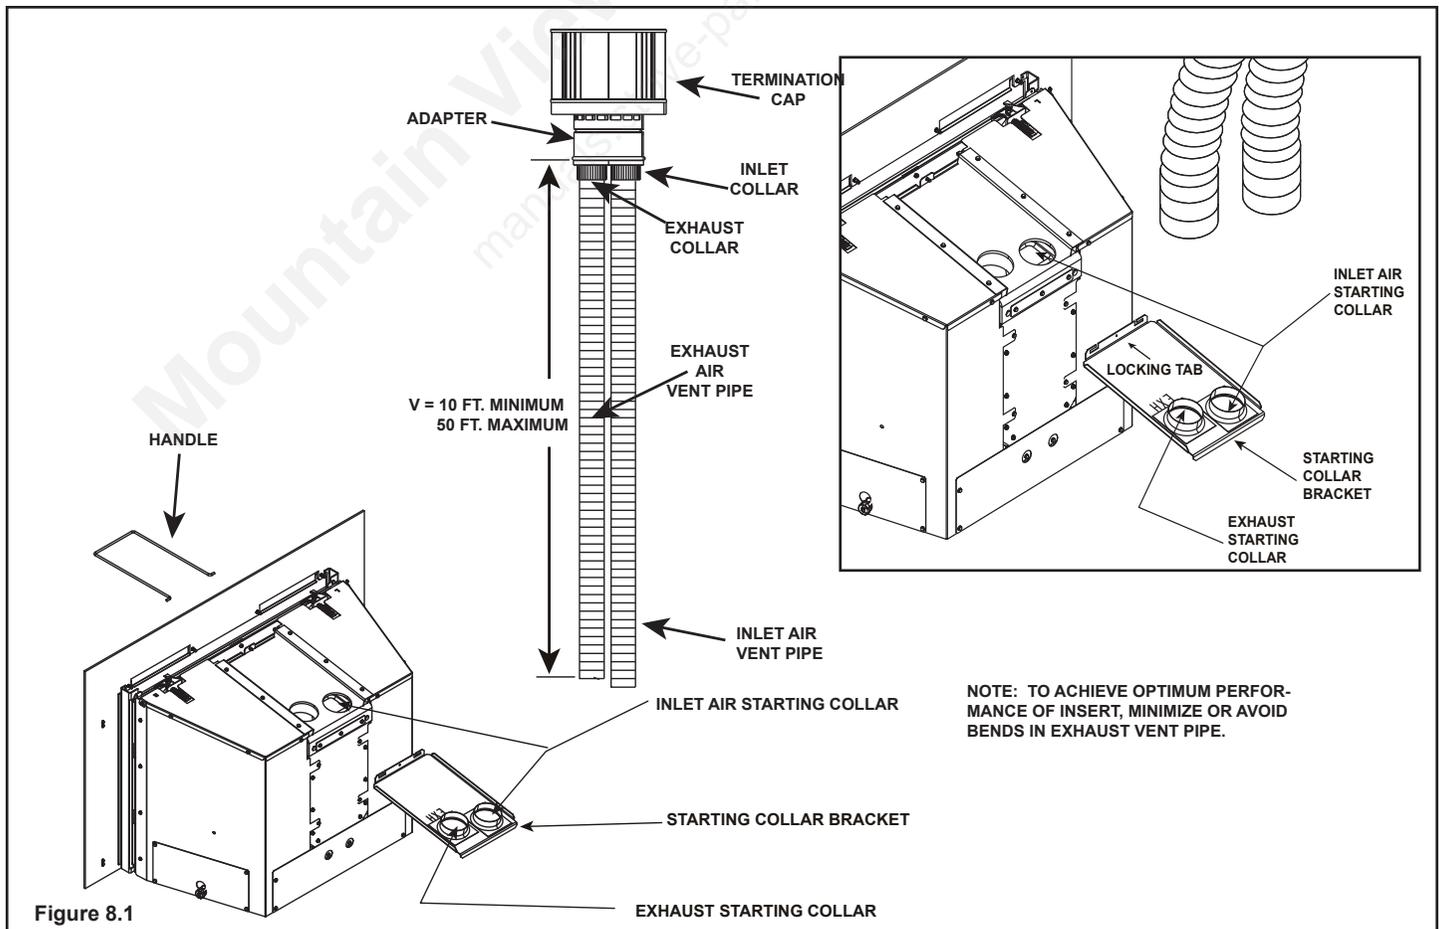

Figure 8.1
- Secure the exhaust flexible vent pipe to the 3 foot section stainless steel flexible vent pipe using the factory-installed 3-inch collar in the stainless steel section of pipe (see Figure 8.1).
- Use 3 screws to attach the section of inlet air vent to the inlet collar on the collar slide plate. See Figure 8.1. NOTE: The collar slide plate may be removed from appliance to aid installation.
- Secure collar slide plate to appliance by placing locking handle into position with locking tabs (see Figure 8.1) and secure with #8 screw.